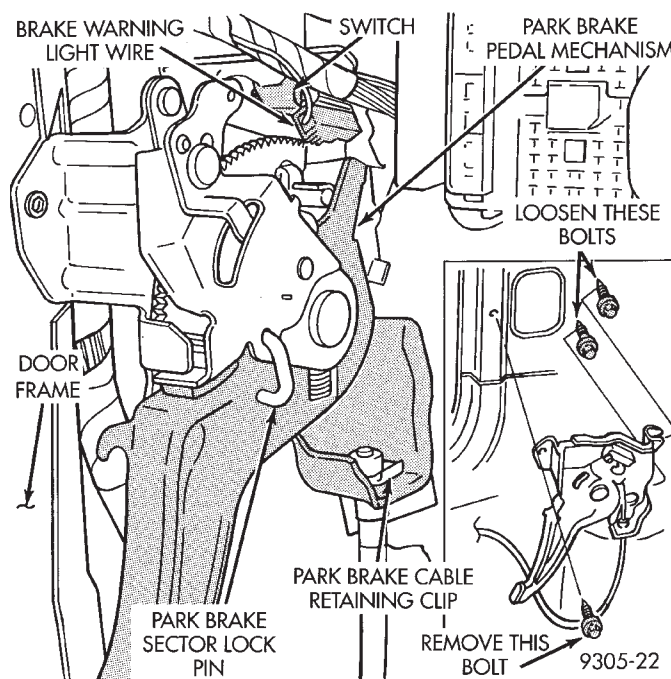

Fig. 9 Park Brake Pedal Mechanism
(4) Install park brake pedal mechanism onto the 2 loosened mounting bolt on inner body panel (Fig. 9). Install the park brake pedal assembly retaining bolt into door frame (Fig. 9). Torque all 3 park brake assembly mounting bolts to 27 N•m (19 ft. lbs.).
(5) Connect the brake warning light wire from vehicles wiring harness, onto switch located on park brake pedal mechanism (Fig. 9).